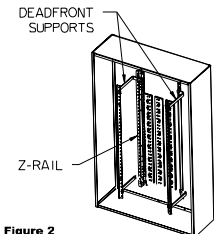
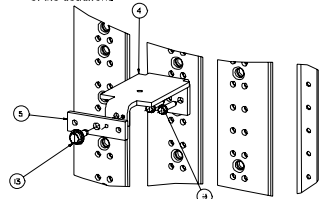
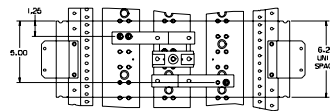
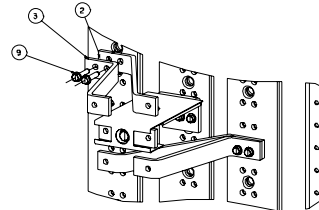

Figure 2
Figure 3
Figure 4
Figure 6
3. Reference fig. 2 - To mount a VL JG Frame breaker, 6.25" of empty unit space is required. To locate the mounting position, measure from the top deadfront support to the top of the empty unit space filler on the deadfront. Transfer this dimension from the deadfront support along the Z-rail and mark. This will be the unit space as shown on Fig. 4. After marking the Z-rail, remove the deadfront.
5. Reference fig 3 and fig 4 - The first items to be installed are the B strap and B-phase link (items 4 and item 5). Locate two 0.228" diameter holes on the B-phase of the section bus 5.00" down from the top of 6.25" unit space selected. Insert two 1/4-20 thread-forming screws (see the mounting hardware kit, item 9, for proper length) through the two holes in the B-phase strap (item 4) and then into the 0.228" diameter holes on the B-phase bus and tighten. To install the B-phase link (item 5), orient the link so that the half punch on the link is inserted into the 0.218 hole in the B-phase strap (item 4). Insert one 5/16-18" screw (item 13) through the 0.375" hole on B-phase link (item 5) and then into the 0.281" diameter hole on the B-phase strap and tighten. Torque all screws to the values specified on the rear of the deadfront.
7. Reference fig. 4 and fig. 6 - Locate two 0.228" diameter holes in the A-phase section bus, 1-1/4" down from the top of 6.25" unit space selected. Insert two 1/4-20 thread-forming screws (see the mounting hardware kit, item 9, for proper length) through the two holes in the A-phase straps (item 2 and 3) and then into the 0.228" diameter holes on the A-phase bus and tighten. To install the C-phase strap (item 2 and 3) locate two 0.228" diameter holes on the C-phase section bus 5.00" down from the top of the 6.25" unit space. Insert two more 1/4-20 screws through the two holes in the strap and then into the 0.228" diameter holes in the C-phase section bus. Orient the straps as shown in fig. 6. Ensure that there is 1.75" vertically between centers of the straps. Torque all screws to the values specified on the rear of the deadfront.